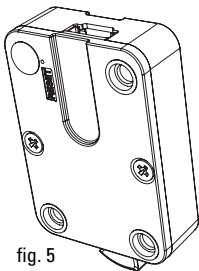

fig. 5
3. Locate the RESET button (*Figure 5*) on the swingbolt housing.